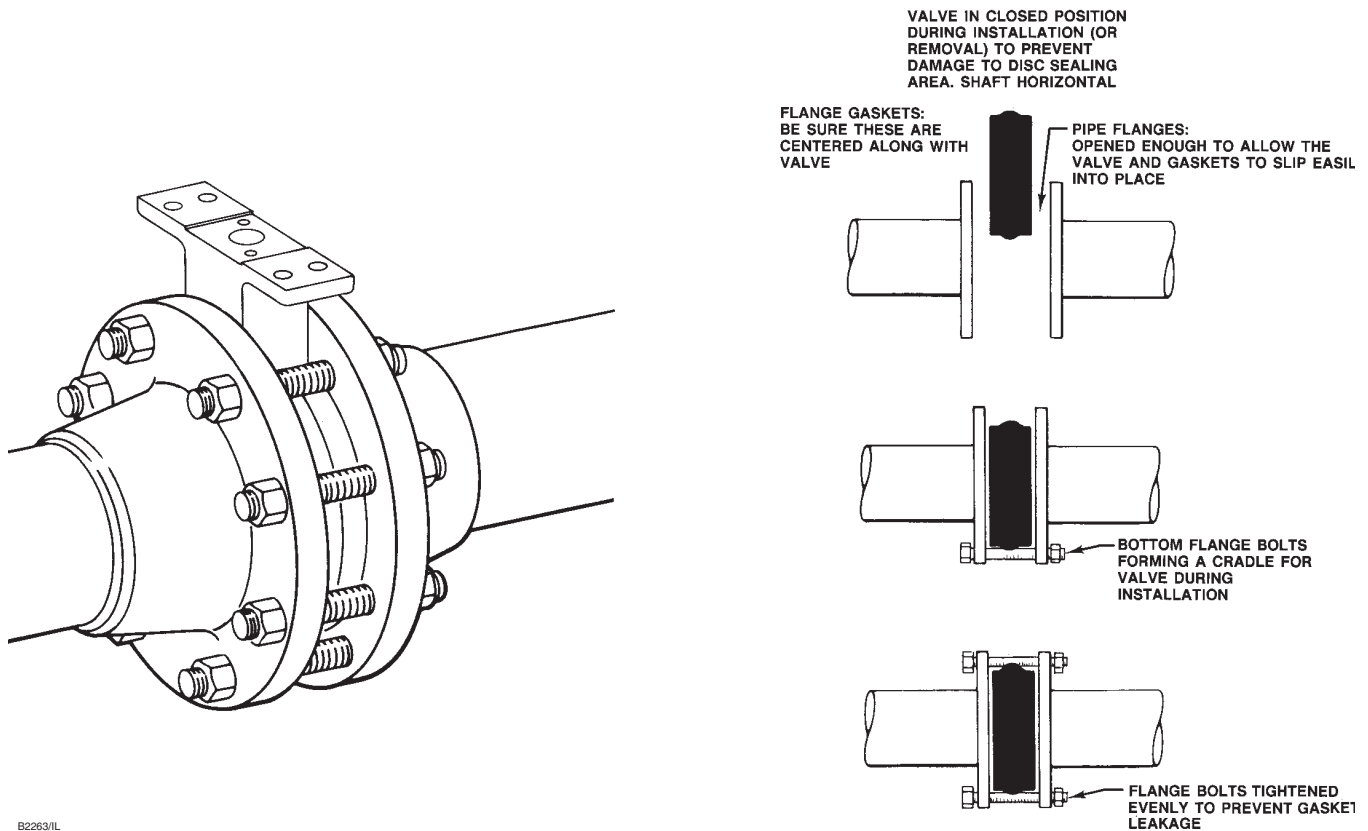

Figure 3. Proper Installation Procedure
1. See figure 3. Install the lower flange bolts first to form a cradle for the valve.
7. Before removing the valve from the pipeline, make sure the valve disc is closed. See figure 3. Rotate the shaft clockwise until the disc makes contact with the internal stop or actuator travel stop (if still installed). The "S" stamped on the shaft should be aligned with the "S" on the valve body.